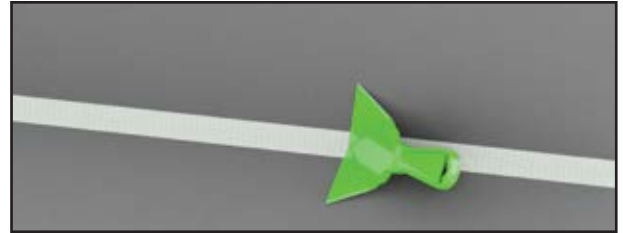

Fig. 12
4. Apply an additional continuous ½" bead of Joint Sealant on top of the Mesh Tape and smooth out again with the putty knives to fully cover the Mesh Tape (Fig. 12). Excess Joint Sealant from this process may be used to cover Screws/Washers.